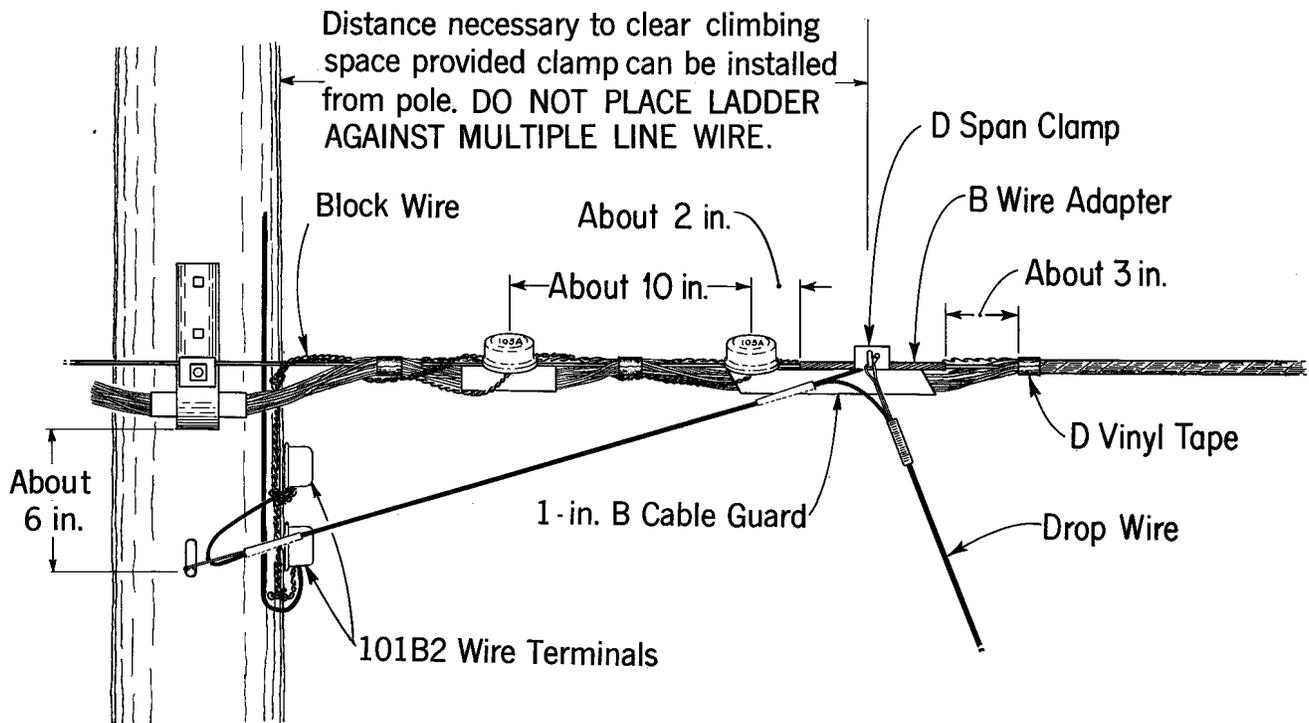

Fig. 11 – Adapter Used for Climbing Clearances
4.01 A B Wire Adapter is installed at a 105A Wire Terminal as shown in Fig. 11.